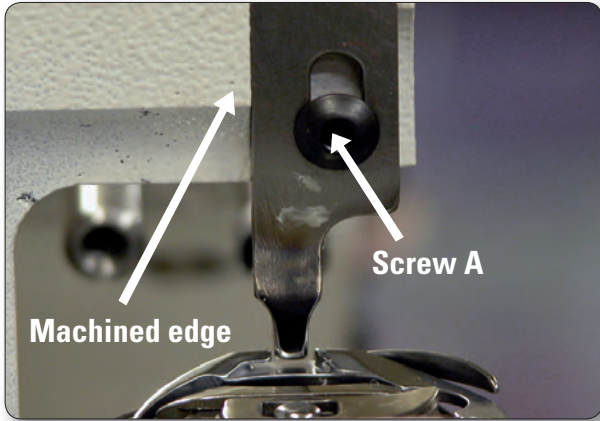
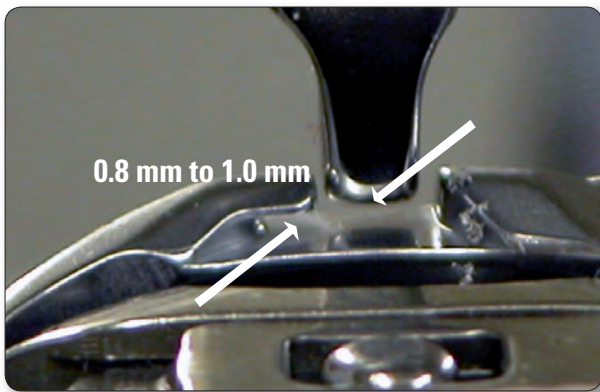

Figure 11.1
Figure 11.2
Check: The engagement of the stop-finger and throat of the bobbin case support basket must have a clearance of 0.8 mm to 1.0 mm (Figure 11.2). *This clearance ensures that adequate space exists for thread escapement during the sewing process.*
- Loosen screw A (Figure 11.1) and adjust the stop-finger so the proper clearance is achieved as shown in Figure 11.2.
- **Important:** *Ensure that the stop-finger stays up tight against the machined edge at the left of the stop-finger as shown in Figure 11.1.*
Note: *This view is from the under side looking up, not from the top side looking down. (Figure 11.2)*